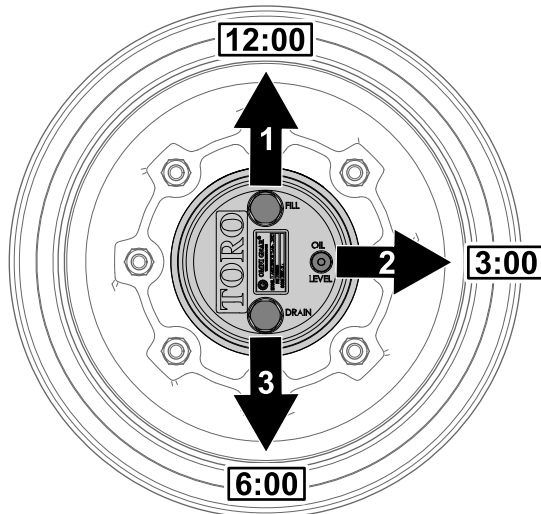

Figure 126
1. Park the machine on level surface, position the wheel so that the fill plug is at the 12 o'clock position, the check plug is at 3 o'clock position, and the drain plug is at the 6 o'clock position (Figure 126).
2. Remove the check plug at the 3 o'clock position (Figure 126).
1. Park the machine on level surface, position the wheel so that the fill plug is at the 12 o'clock position, the check plug is at 3 o'clock position, and the drain plug is at the 6 o'clock position; refer to Figure 126 in Checking the Planetary Gear-Drive Lubricant (page 71).